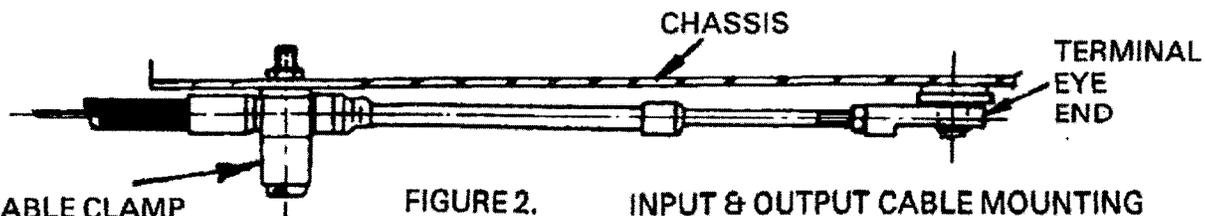

FIGURE 2. INPUT & OUTPUT CABLE MOUNTING
Secure cable hubs to unit using plastic cable clamps, pan head M5 screws and nuts provided, in required position, described above, and as shown in figure 2.
With input beam still locked remove split pin from out put lever. Secure cable hub to unit using plastic cable clamp, pan head M5 screws and nuts provided, in required position, described overleaf and as shown in figure 2. Fit terminal eye end to cable rod end so as to equalize the cable lost motion. Connect cable to output lever, secure with split pin.
2. Drill mounting holes as shown in Fig. 2.